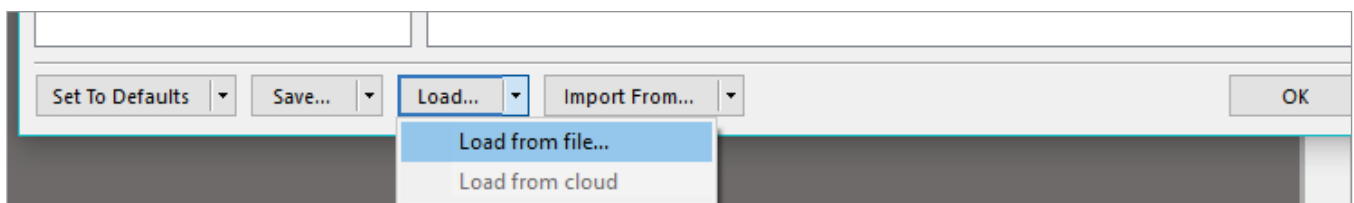

Figure 2: Preview of DXP preferences load options within Altium Designer 13 and up.
3. As shown in Figure 2 below, click the **Load** button and select the appropriate data source.